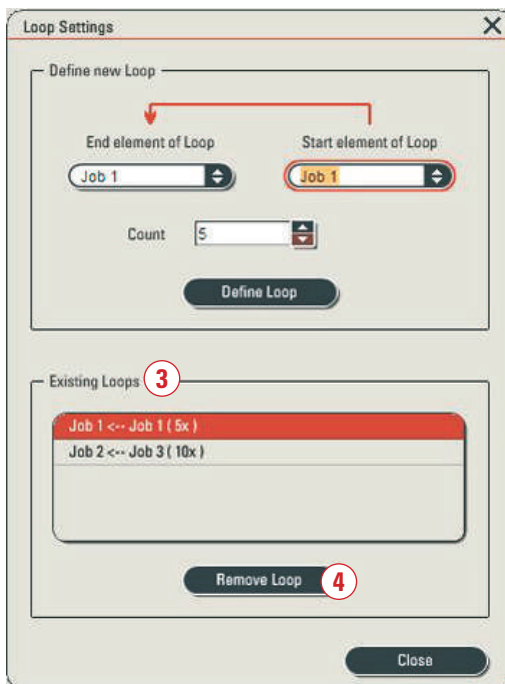

Figure 13c: Selection of a loop for deletion
of existing loops **(3)** followed by a click on the button **Remove Loop (4)** (Fig. 13c).